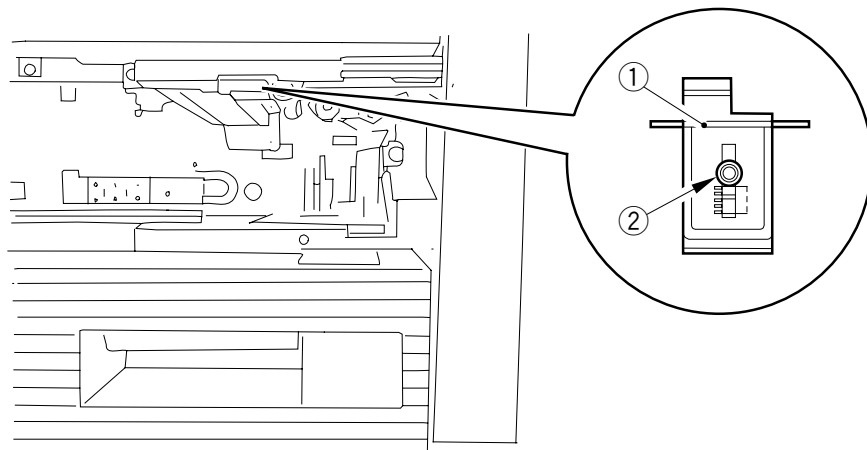

Figure 5-846
Loosen the screw ② shown in Figure 5-846, and adjust the position of the cassette hook plate ①. After making adjustments, enter the paper width basic value in serviced mode (*4*) as instructed in Chapter 11.